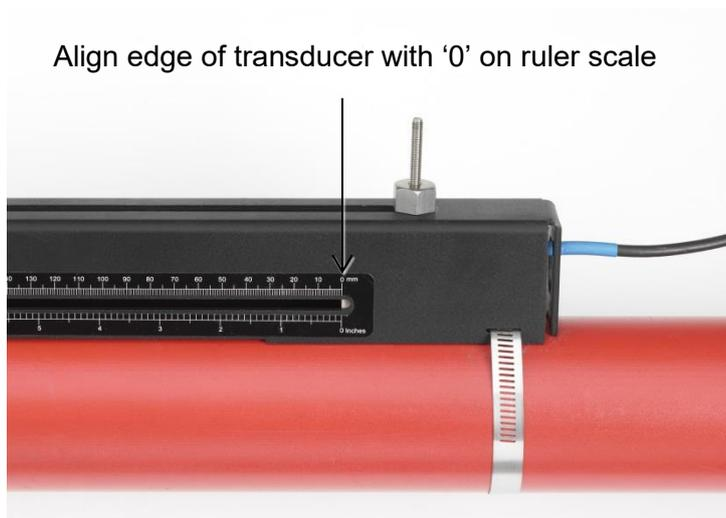

Figure 14 Aligning edge of downstream transducer (blue) with zero on ruler scale
5. Carefully slide the downstream transducer assembly along the guide rail until the inner face of the transducer is aligned with the '0' mark on the ruler scale (Figure 14).